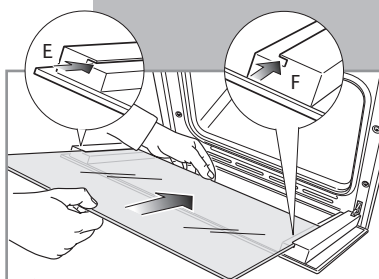
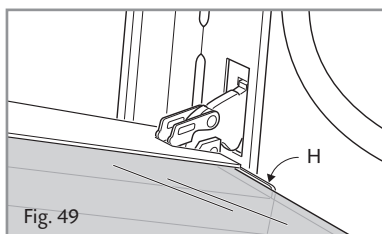

Fig. 48
Fig. 49
- Insert the pane in the left E and right F slide guides (fig. 48), and gently slide it to the retainers H (Fig. 49).